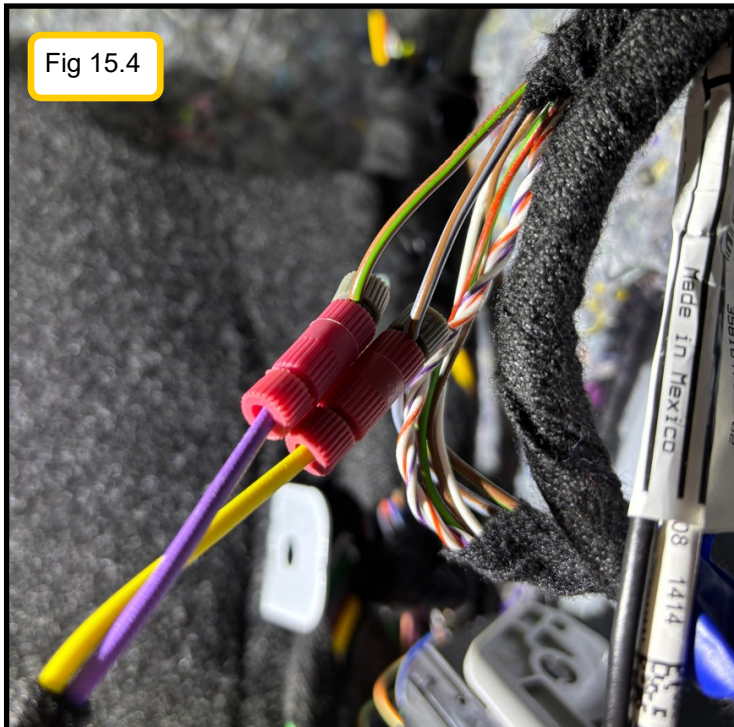

Fig 15.4
5. Install the Posi-Taps following the instructions on page 11 using harness 74341 tapping wires. (Fig 15.4)